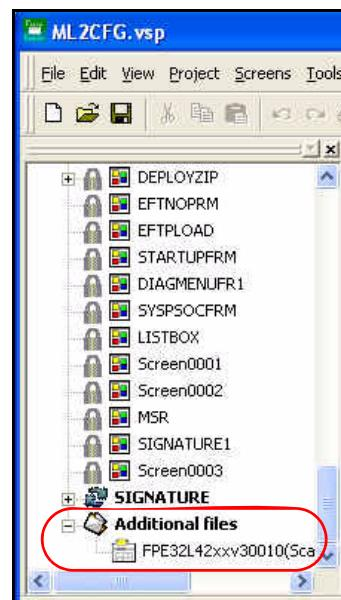

Figure 2-63 Additional files in Project File Tree window
3. Navigate to the application and click **Open**. The application is added to the bottom of the Project File Tree window under **Additional files**, as shown below in the *Figure 2-63* example.